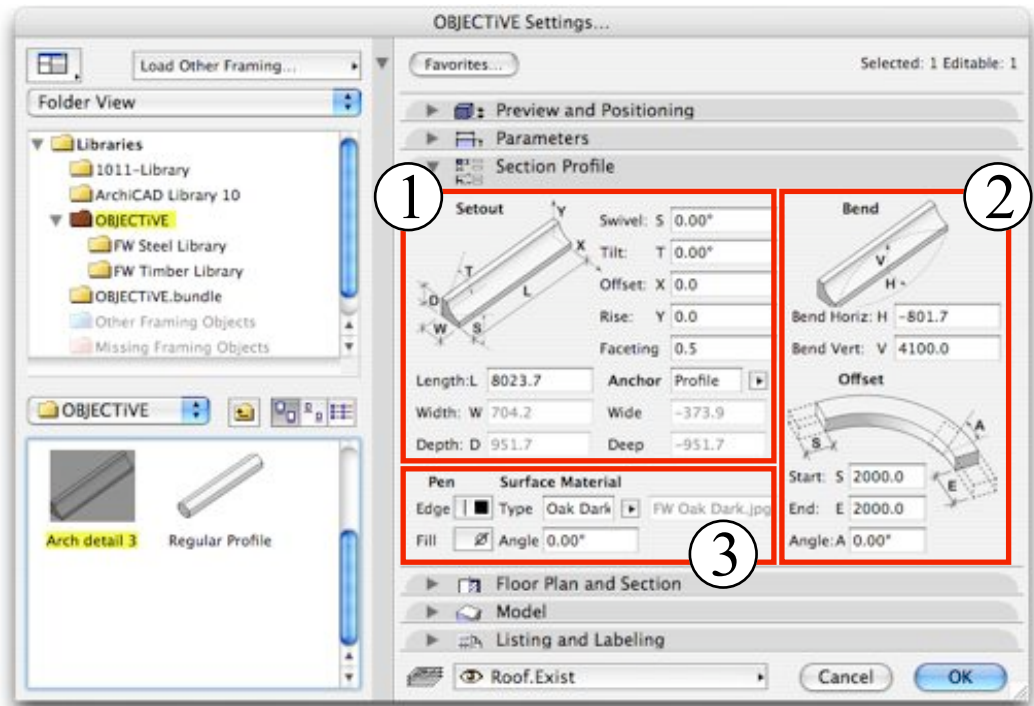

Figure 4.14
- Lathe** The profile becomes the cross-section of the new object, revolved by a specified angle around a central axis (Fig 4.14).
The bounding size of the profile (length, width, depth) has the same meaning irrespective of the object's orientation in 3D. Only the length can be varied in a section profile, which can also be edited in 2D or 3D using smart hotspots aligned to the profile anchor (Fig. 4.14). Note that the plan length is displayed when stretching an inclined profile in the Floor Plan window.